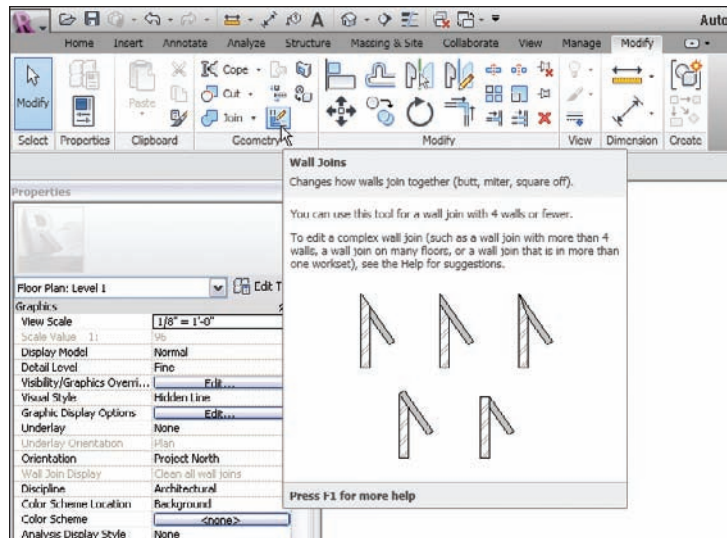

FIGURE 2.52 You'll find the Wall Joins button on the Modify tab.
7. On the Geometry panel of the Modify tab, click the Wall Joins button, as shown in Figure 2.52.